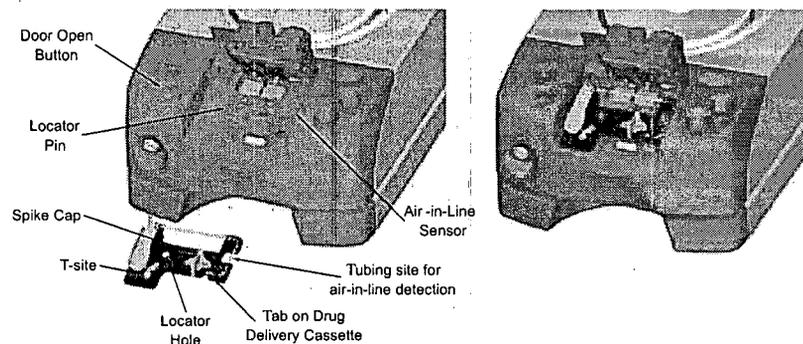

Figure 6-23 Placement of Drug Delivery Cassette into PRU
1. Open the cassette door by pressing the **Door Open** button on the top of the PRU (Refer to Figure 6-23 on page 6-18).